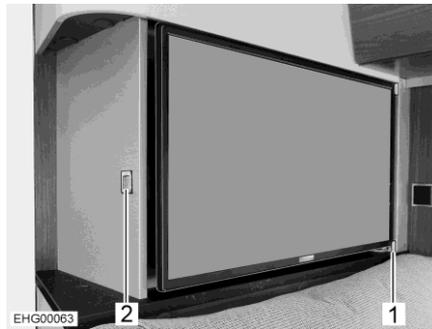

Fig. 85 Flat screen
The flat screen is secured on the side by a guide rail (Fig. 85,1).
- Press the release button (Fig. 85,2).
- Pull flat screen out of the guide rail (Fig. 85,1), into the desired position.
- Push flat screen back until it engages in the guide rail (Fig. 85,1) on the side.